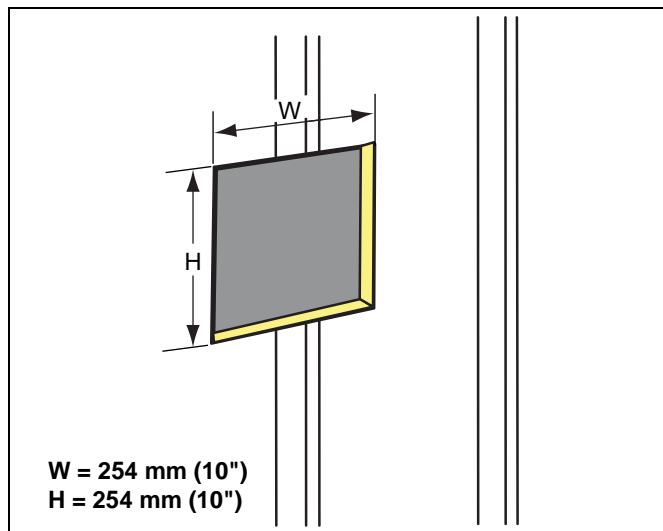

Figure 3C 120K-225K BTU Model
(See Figure 3C.)
4. Locate 4 x's for thru-wall extension duct (6) and cut from one hole to the next until opening is removed. (See Figure 3C.)